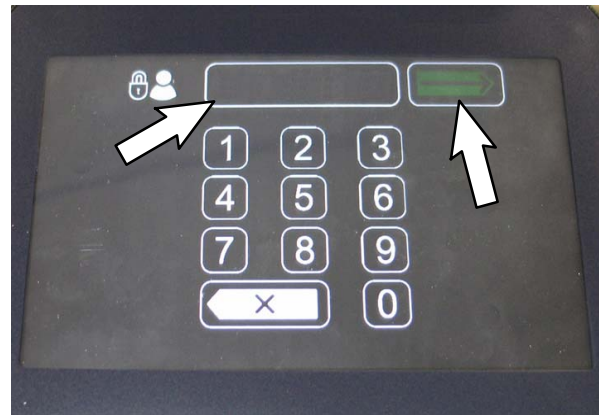

FIG. 33
- Use the keypad to enter the supervisor mode log in number into the display above the keypad. Press the enter button when finished entering the log in number. The Service Mode screen should appear in the display. (Fig. 33/ Fig. 34)